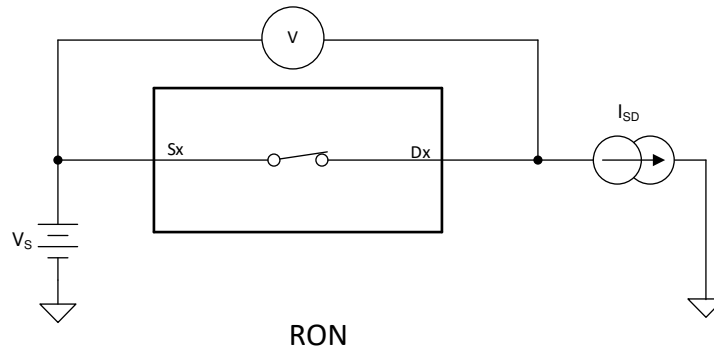

Figure 6-1. On-Resistance Measurement Setup
The on-resistance of a device is the ohmic resistance between the source (Sx) and drain (Dx) pins of the device. The on-resistance varies with input voltage and supply voltage. The symbol  $R_{ON}$  is used to denote on-resistance. Figure 6-1 shows the measurement setup used to measure  $R_{ON}$ . Voltage (V) and current ( $I_{SD}$ ) are measured using this setup, and  $R_{ON}$  is computed with  $R_{ON} = V / I_{SD}$ :